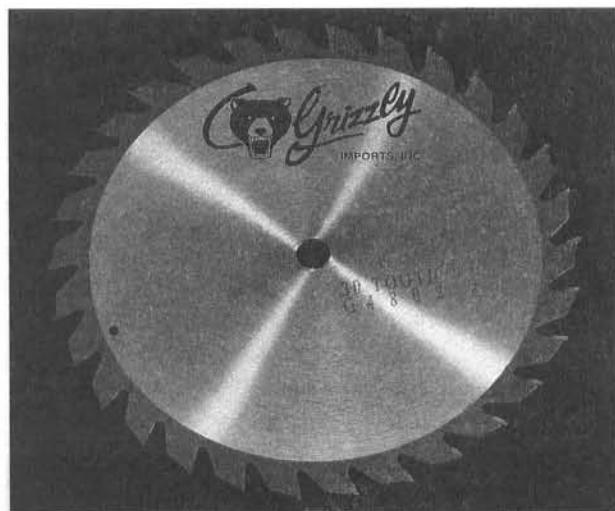

Figure 43.
1. **Rip Blade:** Used for cutting with the grain. Typically, rip blades have between 20-30 teeth, a flat-top ground profile and large gullets to allow for large chip removal. **Figure 43.**
4. Hold the workpiece firmly against the face of the miter gauge and ease it into the blade. **Figure 43.**